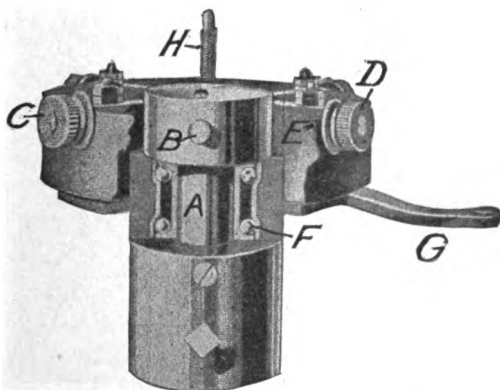

FIG. 34.— Splitdorf Timer, Wipe Contact Type.
*Splitdorf Timer, Wipe Contact Type.* Fig. 34 shows the construction of the Splitdorf wipe contact type timer. The shaft  $A$ , which is grounded, has secured to it a head which carries the spring point  $B$ . As the shaft  $A$ , which is driven by gearing generally from the cam shaft, revolves, the point  $B$  makes contact with the terminals  $C$ ,  $D$ , etc., in turn. These terminals are insulated from the collar of the timer  $E$ . When contact is made with any terminal, the primary circuit corresponding to that terminal is completed and the corresponding